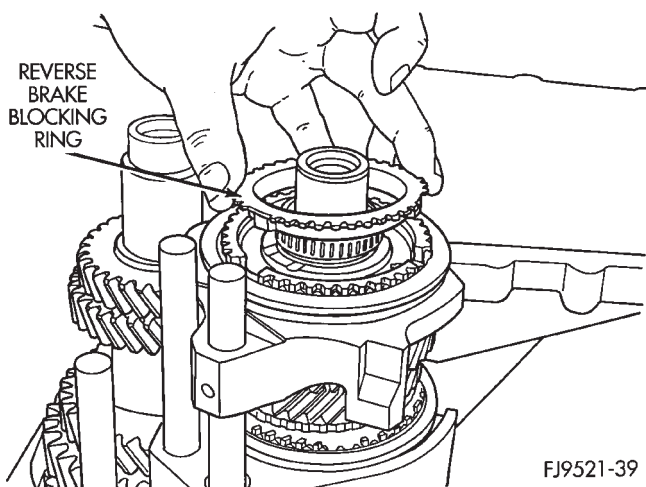

Fig. 71 Reverse Brake Blocking Ring Installation
(6) Install reverse brake blocking ring (Fig. 71).